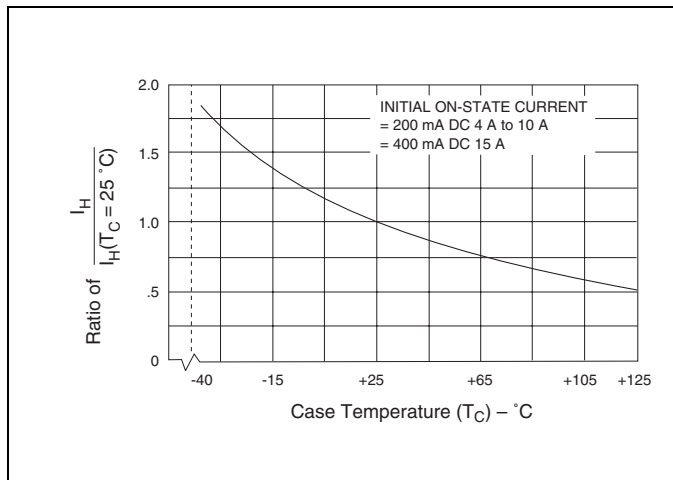

Figure E3.1 Normalized DC Holding Current versus Case Temperature
- See Figure E3.1 for  $I_H$  versus  $T_C$ .